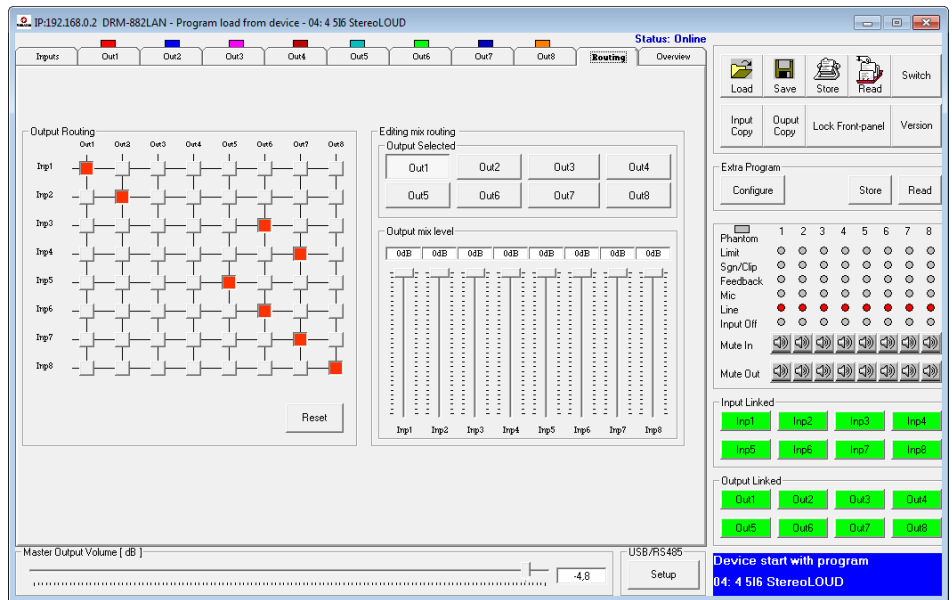

Fig. 26 View "Routing"
- 1) To assign the desired input signals to each output and to define their mixing ratio, select the view "Routing" (fig. 26).